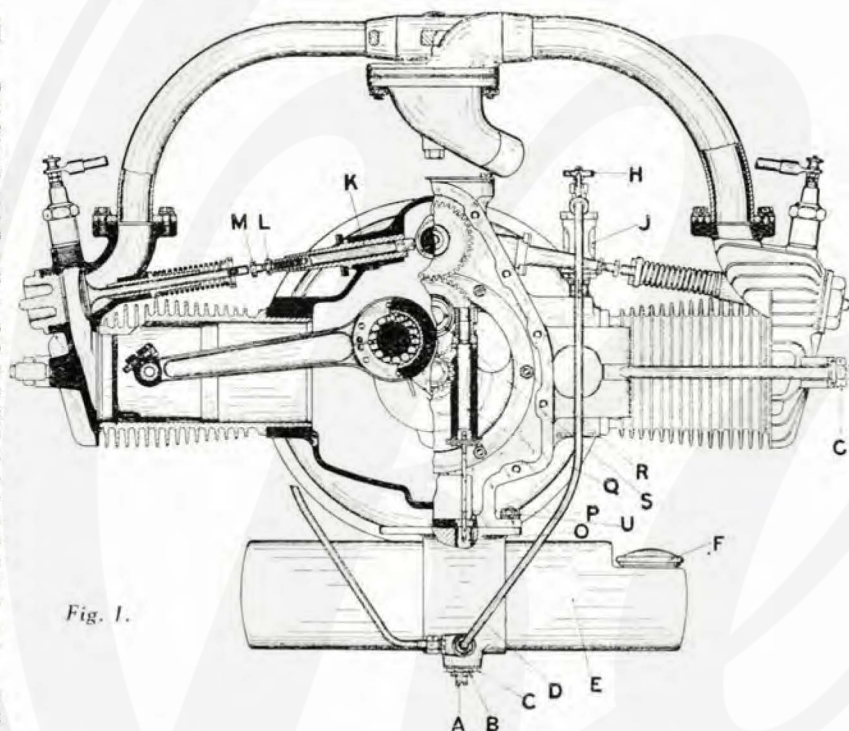

Fig. 1.
The illustration (Fig. 1) depicts the front view of the engine in part section. The oil sump E should be filled with Castrol C to the bottom of the filler F. The oil is pumped through the pipe D into the oil indicator J, and the adjusting nut H should be set to deliver about 30 spots per minute when the engine is 'ticking over' but change into an almost continuous stream upon acceleration.
The alterations in this series over those dealt with in Part 1 are as follow: (1) The cylinder heads and barrels are secured by means of studs instead of the holding down straps G (Fig. 1); (2) A sight-feed lubricator is fitted to each cylinder instead of to one only, and (3) the rear bearing on crankshaft is of larger size. Otherwise the instructions already given for the engines of cars Nos. 80,001 to 85,000 apply in their entirety to this series.